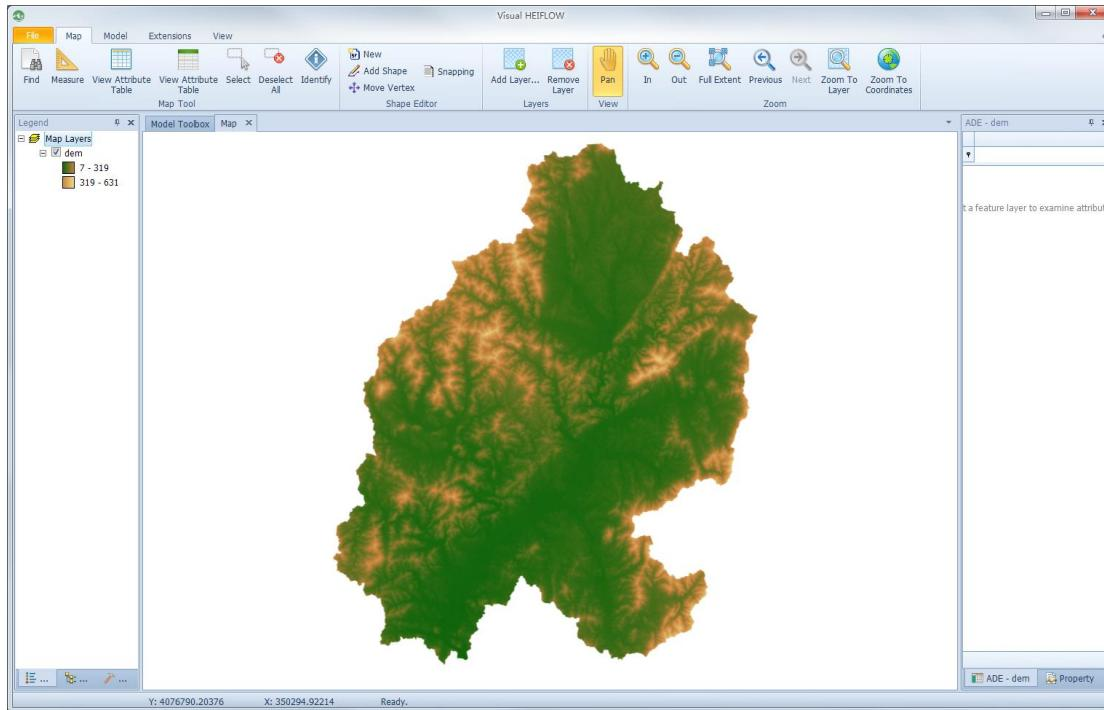

Figure 4-3. DEM of Miho catchment shown in the Map window.
3. Select Map >> Add Layer..., navigate to the Spatial Data directory in the Tutorial folder in the prompted dialog, select “dem.tif” and then click Open. The DEM will be added to the map, and the main window of VHF looks like Figure 4-3.